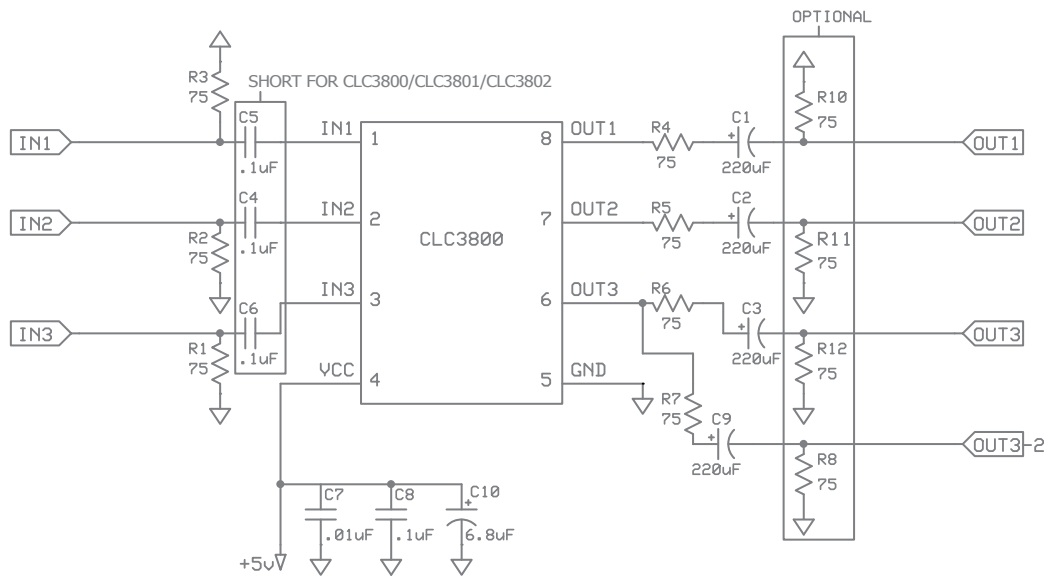

Figure 2: Evaluation Board Schematic
- C7, C8, C10 are bypass capacitors, the standard board is populated as shown in Figure 2. For general use: